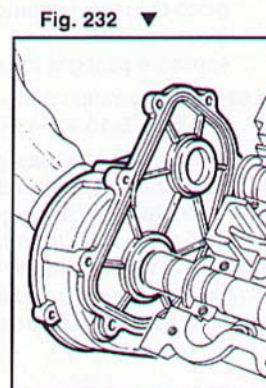

Fig. 232 ▼
- accostare i coperchi anteriori teste cilindri alle teste stesse (**Fig. 232**);
- put the cylinder head front covers on the heads (**Fig. 232**);